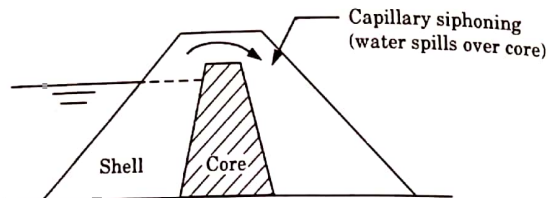

Fig. 3. Capillary siphoning.
1. In an earth dam with an impervious core, capillary siphoning may occur as shown in Fig. 3.